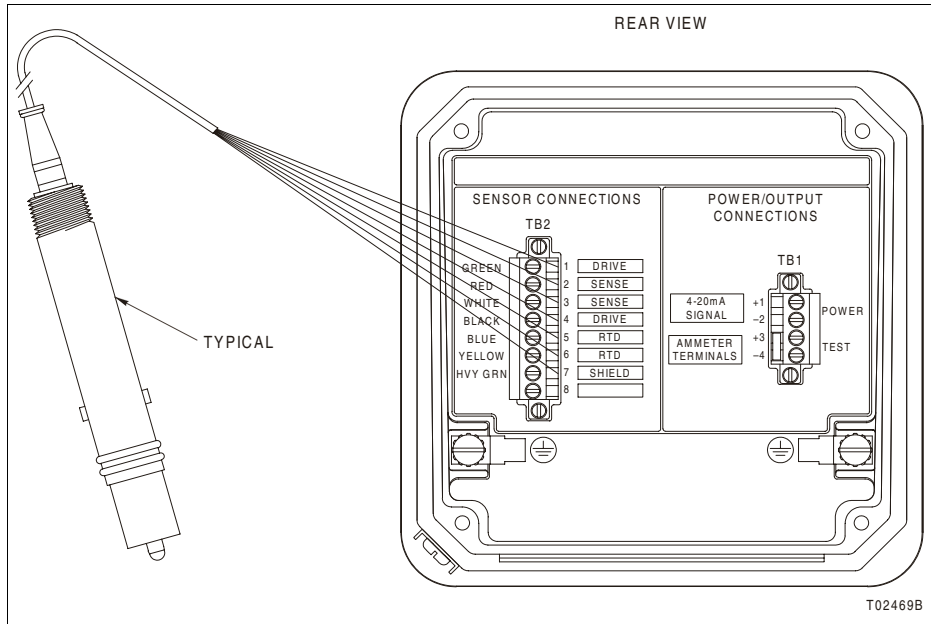

Figure PR6-1. Four-Electrode Sensor Connections
- 2. Use the small flat-blade screwdriver to connect the sensor wiring as shown in Figure PR6-1.